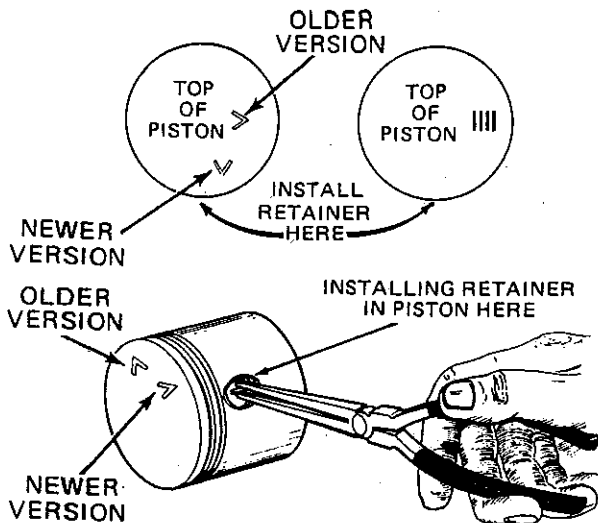

Figure 23
- (1) Install one piston pin retaining ring in piston as shown in Figure 23. If offset piston is not used, retaining ring can be installed in either groove.
- (2) Fill a quart can 3/4 full of SAE 30 motor oil.
- (3) Completely submerge the piston in the oil but **DO NOT** let the piston touch the
K. Use a ring compressor to insert piston, rings and connecting rod assembly into cylinder bore. Do not force because damage to rings or piston are sure to occur. Check marks on piston and connecting rod to be sure of correct installation in cylinder. (See Figures 23 and 25).